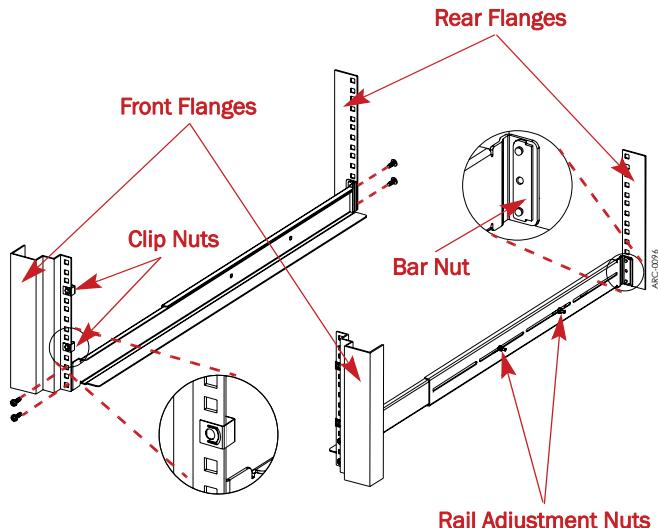

Figure 4. Attaching the Rack Kit Rails
4. Using the eight SEMS screws and four **bar nuts** provided, attach the rails (Figure 4) **inside** the flanges:
- a. Attach the **right rail** inside the marked locations (Figure 4) of the right front and right rear flanges.